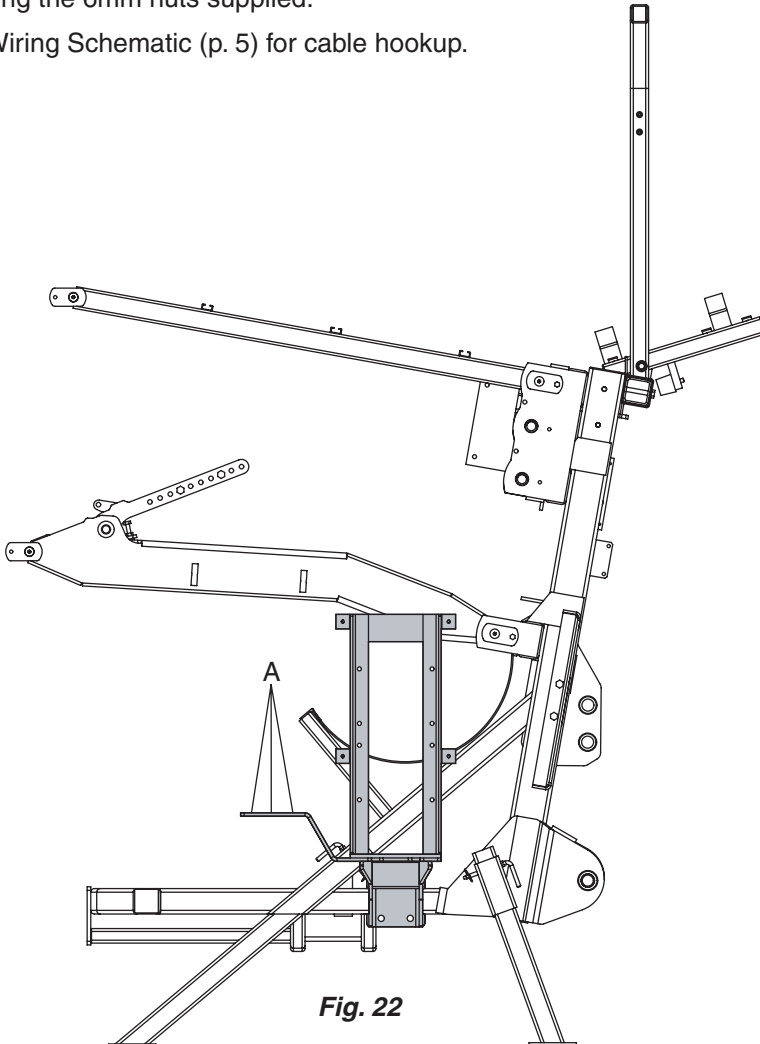

Fig. 22
1. Locate holes **A** on the bracket added in Section 6.5. Mount the Compressor Box to the top of the bracket (**Fig. 22**).
2. Mount the Solution Pump on the pump bracket using (4) bolts (M6x25mm), washers and 6mm nuts. Orient the Solution Pump so the pump head is facing the outside of the sprayer frame.